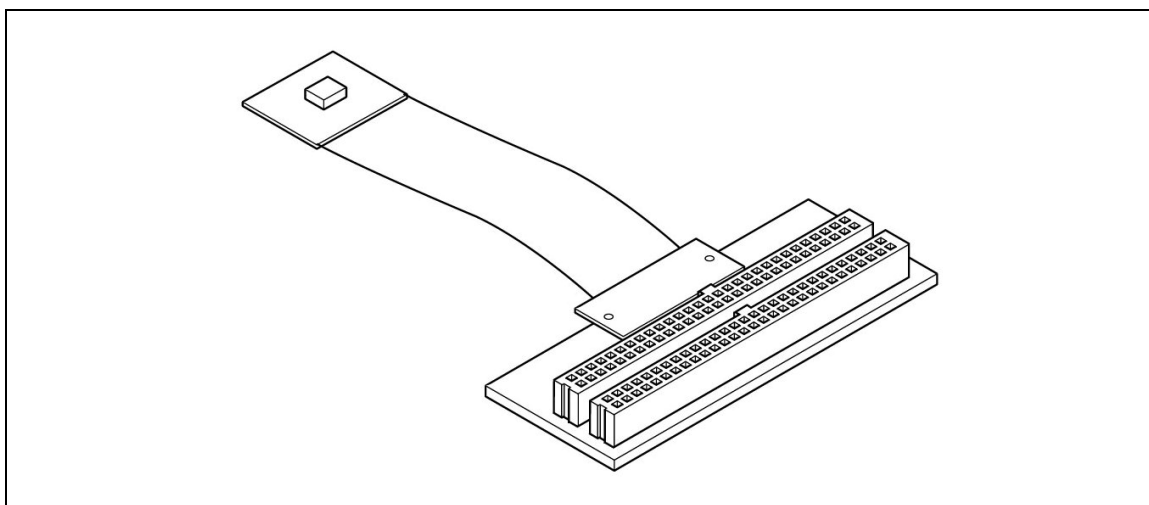

Figure 12: Flex PCB mounted on TEB adapter
- 2 Connect the DB522 flex adapter to the TEB adapter (ref.: DB545) as shown in Figure 12